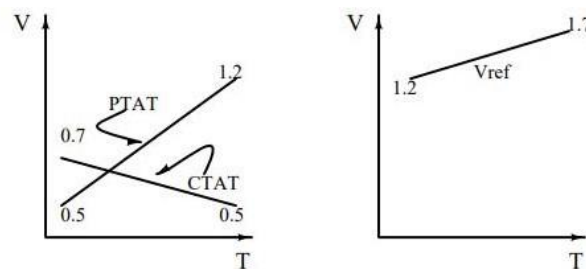

Fig. 1: (a) PTAT and CTAT responses (b) Response of voltage reference
- Consider Fig. 1 (a), where typical response of PTAT and CTAT voltages are given. If we add PTAT and CTAT voltages we get the response as shown in Fig. 1 (b). Though the Response is not that of a voltage reference, we can achieve it by multiplying PTAT and CTAT voltages with suitable constants. Fig. 2 forms the basic idea behind the band-gap reference.